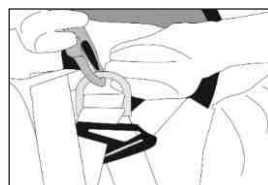

Fig. 7
- 2) Attach the connector situated at the end of the wire rope to an attachment point (dorsal or sternal) of the harness (Fig. 7). The operator can move.